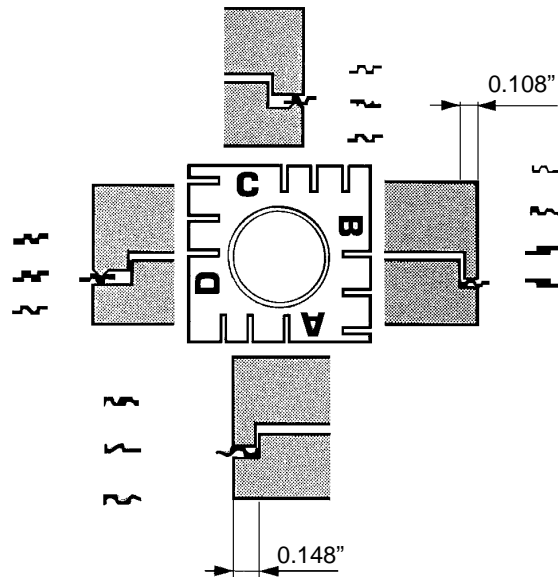

Fig. 4
Jaw side B is used for keys with a deeper cut (min. original key blank width of 0.108"). Both of these jaw positions are shown in fig. 4 below. Make sure that the keys are laying flat inside the jaw and the shoulder is resting against the jaw face or against the key gauge (N).